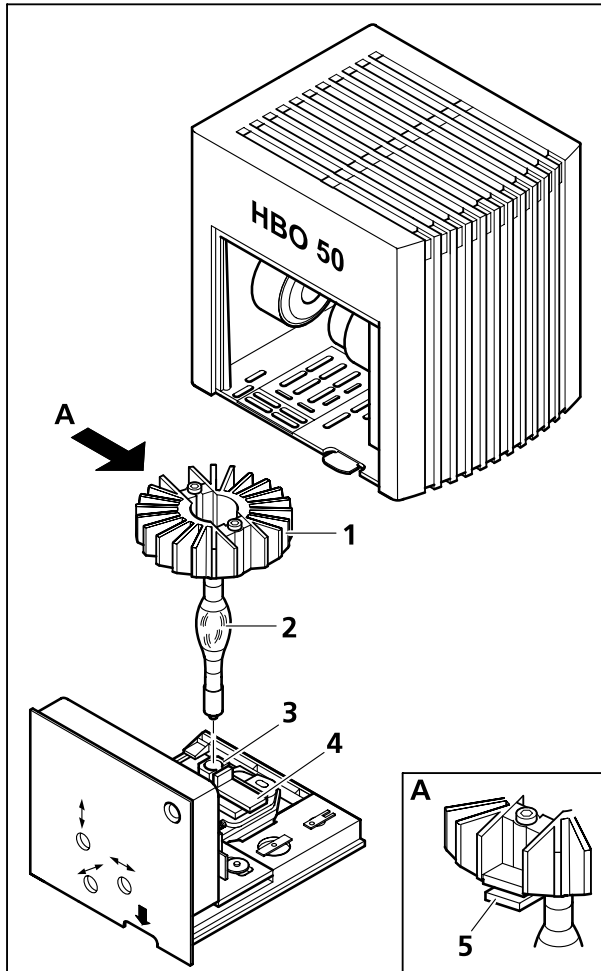

Fig. 3-28 Changing the burner
- Press the spring lever (Fig. 3-28/5) on the heatsink up and pull the heatsink (Fig. 3-28/1) off the inserted dummy or the used burner (Fig. 3-28/2). Lay it aside carefully.
- Press down the spring lever (Fig. 3-28/4) on the lower lamp socket and pull the dummy / burner (Fig. 3-28/2) out of the socket (Fig. 3-28/3) in an upward motion. Release the spring lever.
- Press the spring lever (Fig. 3-28/4) on the lower lamp socket down again and insert the burner into the socket (Fig. 3-28/3). Do not touch the burner's glass bulb. Release the spring lever.
- Press spring lever (Fig. 3-28/5) on the heatsink up and mount heatsink to the burner.